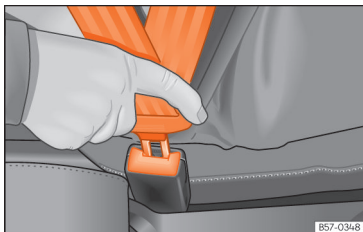

Fig. 23 Insert the latch plate of the seat belt into the buckle.
- Insert the buckle plate in the buckle of the correct seat »» Fig. 23.